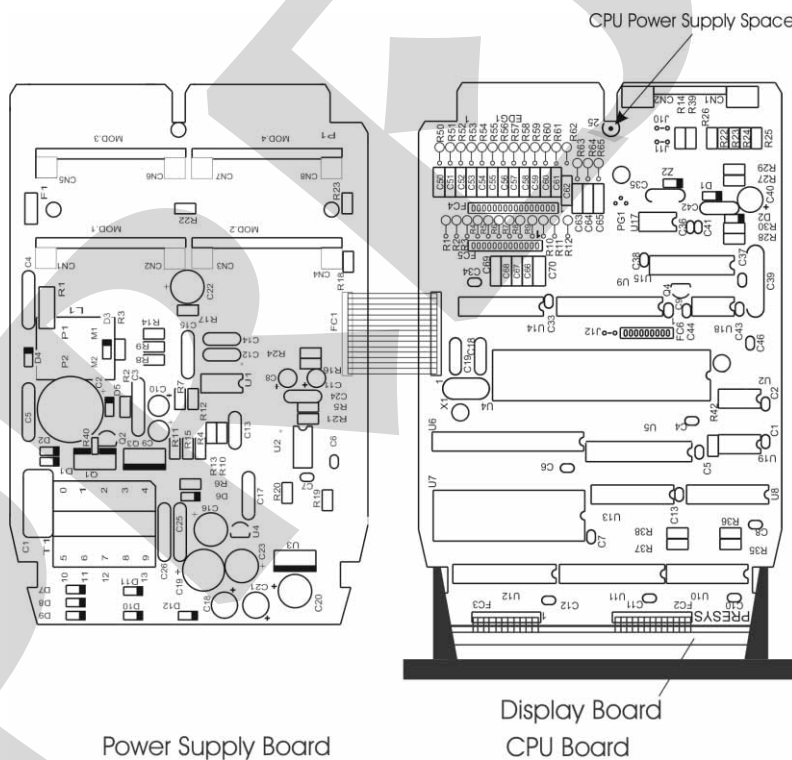

Fig.12 - Indicator Hardware
- iv) Move the Power Supply Board to the right and open the boards according to Figure 12.